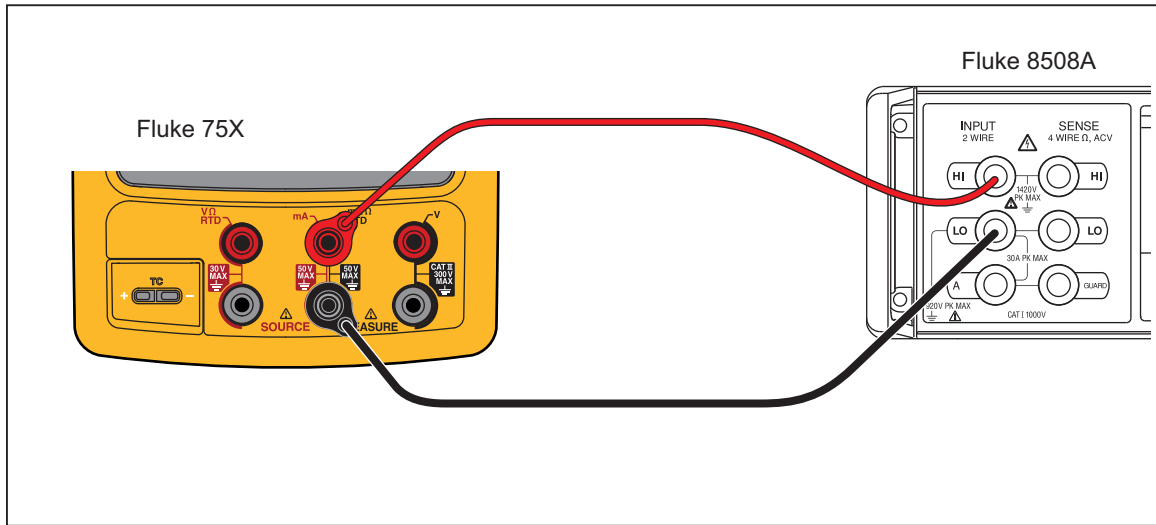

Figure 13. Loop Power Verification Connections
1. Connect the UUT to the 8508A DMM as shown in Figure 13.